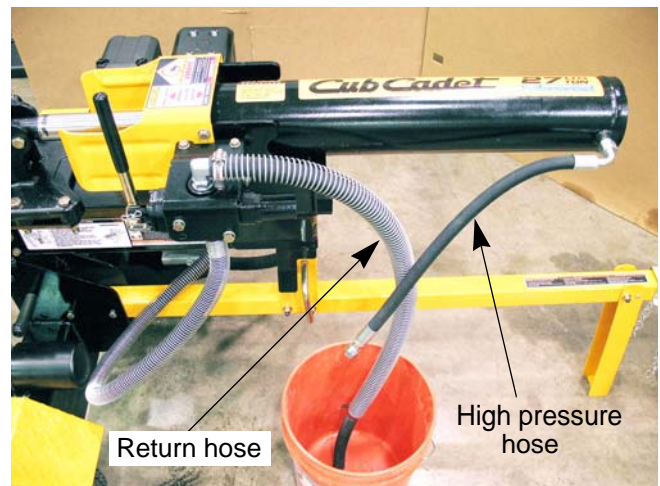

Figure 5.8
6. Place a suitable 5 gallon bucket under the valve to catch the hydraulic fluid from the cylinder and the lines. See Figure 5.8.